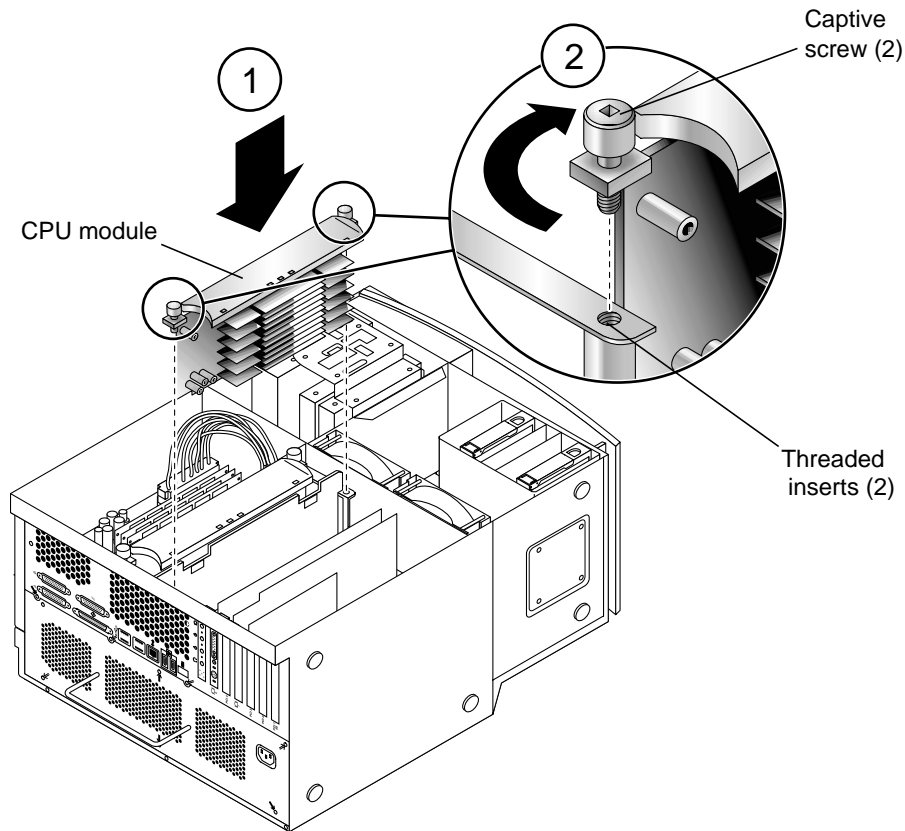

FIGURE 8-9 Lowering the CPU Module Into the Threaded Inserts
2. Lower the CPU module into the shroud until the CPU module's captive screws are aligned with the threaded inserts (see FIGURE 8-9).